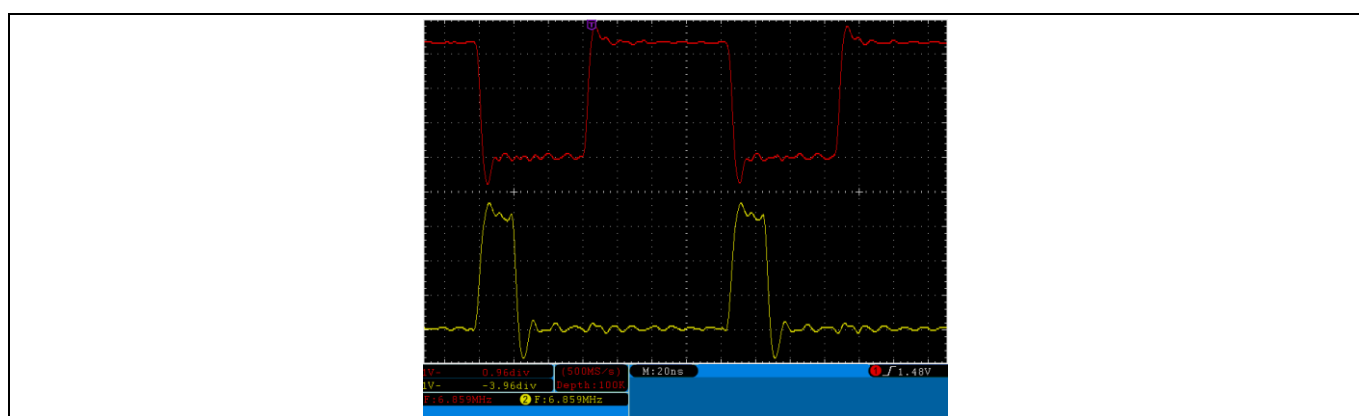

Figure 28 Top: Divide by 7; Bottom: stb Signal is One Clock Wide for Reference
- Probe P2 pin 11 (CTL0=divby7); the screen appears as shown in **Figure 28**.